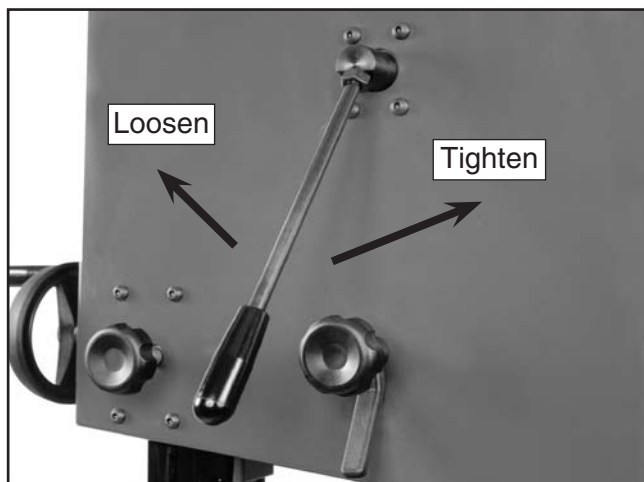

Figure 39. Quick release tension lever.
2. Release tension on the blade by rotating the quick release tension lever clockwise as shown in **Figure 39**.
2. Make sure the quick release tension lever shown in **Figure 39** is released.